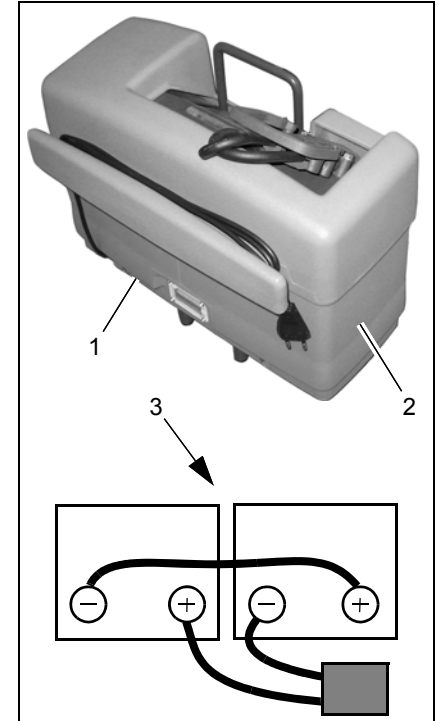

Fig.15
4. Loosen the four screws (Fig. 15/1) and lift the cover (Fig. 15/2) off.
2. Connect the battery poles in accordance with the connection plan (Fig. 15/3) using the connection cables. Ensure they are connected firmly.
3. Replace the cover (Fig. 15/2) and secure in place with the screws.